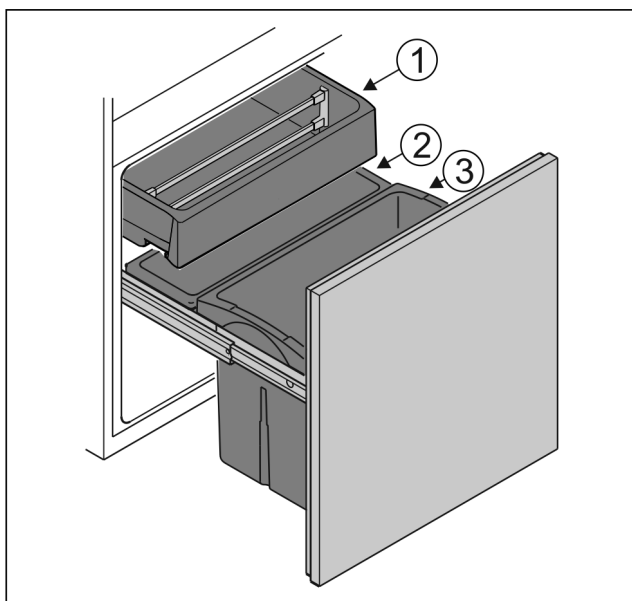

Fig. 6
- Container Fig. 6 (1): Store unpackaged vegetables and tropical fruits.
- Container Fig. 6 (2): Store small unpackaged fruits and vegetables.
- Container Fig. 6 (3): Store individual bottles.